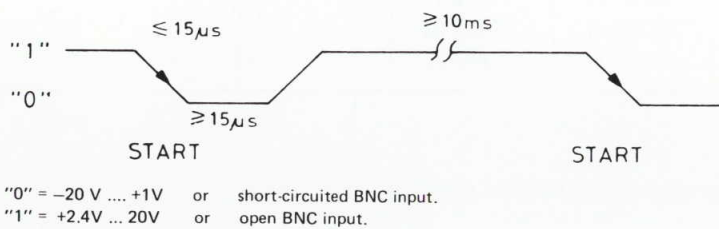

Fig. 14. Start pulse for EXT START input.
– A measurement is started by making this input low (see fig. 14)